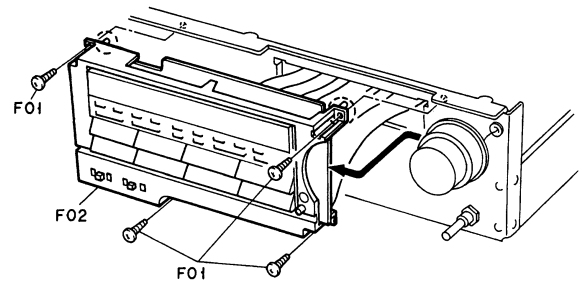

Fig. 2.3.1
2.3. Front Chassis Ass'y and Control Switch & Display P.C.B. Ass'y Refer to Figs. 2.3.1 and 2.3.2.